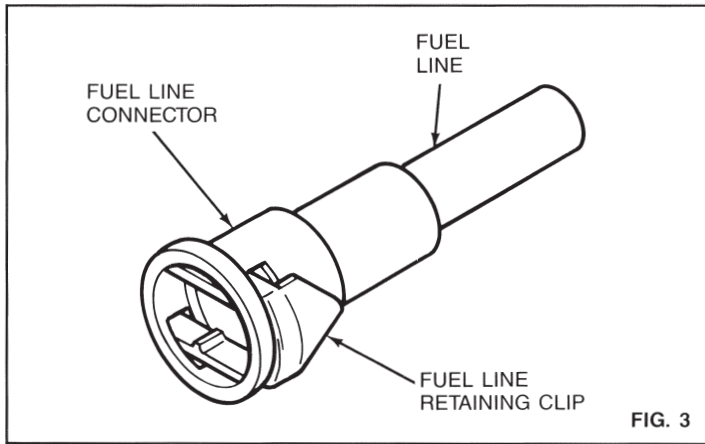

FIG. 3
B) Referring to Fig. 3, install the fuel line retaining clips, 5/16" (natural/clear) and 3/8" (black), into their respectively sized fuel line connector with the triangular portion of the clip facing away from the fuel line connector opening.